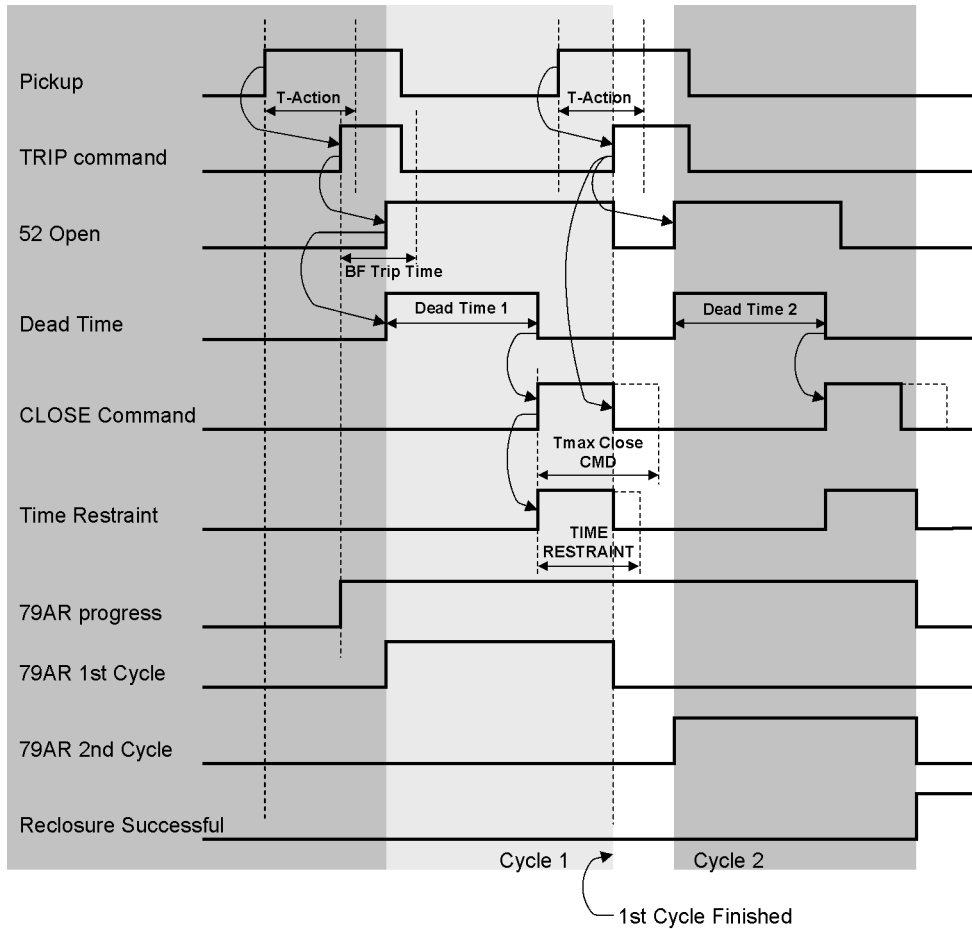

Figure 2-100 Timing diagram showing two reclosing shots, first cycle unsuccessful, second cycle successful
The 7SJ80 is equipped with an integrated three-pole, single-shot and multi-shot automatic reclosure (AR). Figure 2-100 shows an example of a timing diagram for a successful second reclosure.